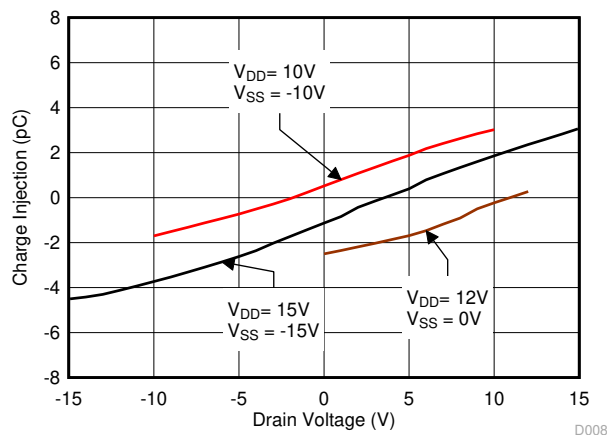

Figure 7-17. Charge Injection vs Drain Voltage
The drain (D)-to-source (SA or SB) charge injection becomes important when the device is used as a demultiplexer (demux), where D becomes the input and Sx becomes the output. Figure 7-17 shows the drain-to-source charge injection across the full signal range.